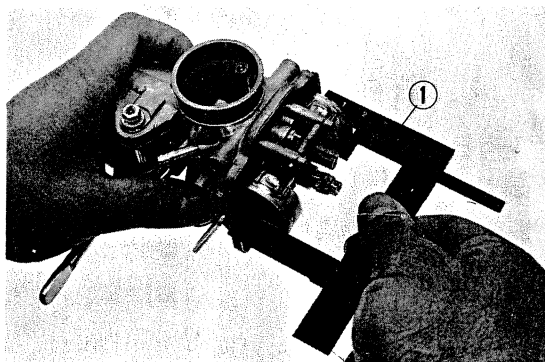

Fig. 97 ① Fuel level gauge
- 3) In this position, the height of the float above the carburetor body should be **24 mm (0.826 in.)** when measured at the side of the float. If adjustment is necessary, carefully bend the float arm. (Fig. 97)